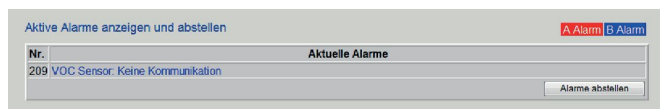

Fig. 68: Alarms
⇒ The 'Alarms' screen ( Fig. 68 ) displays.
2. ▶ Click 'Reset alarms' ( Fig. 68 ) to reset alarms.